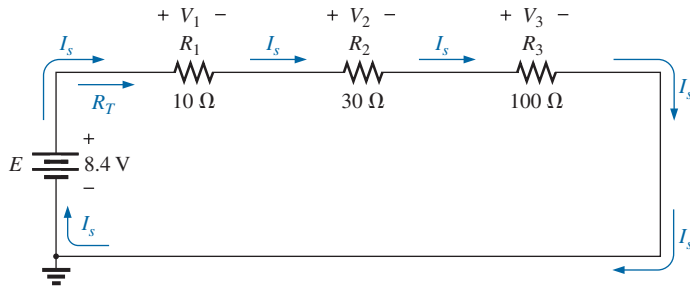
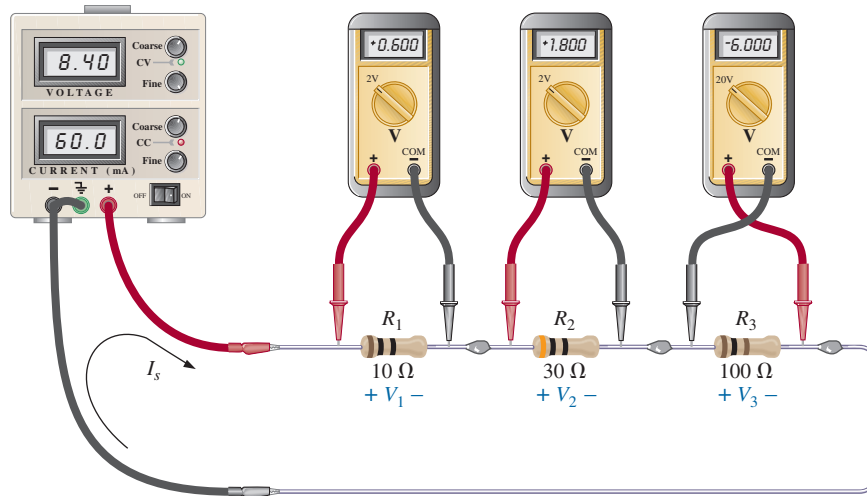

FIG. 5.12
FIG. 5.19
If we now take an 8.4 V dc supply and connect it in series with the series resistors in Fig. 5.4, we have the **series circuit** in Fig. 5.12.
**the direction of conventional current in a series dc circuit is such that it leaves the positive terminal of the supply and returns to the negative terminal, as shown in Fig. 5.12.**
For the circuit in Fig. 5.12, the above statement dictates that the current is the same through the three resistors and the voltage source. In addition, if you are ever concerned about whether two elements are in series, simply check whether the current is the same through each element.
For the configuration in Fig. 5.12, using the total resistance calculated in the last section, the resulting current is
Current entering a resistor creates a drop in voltage with the polarity indicated in Fig. 5.14(a). Reverse the direction of the current, and the polarity will reverse as shown in Fig. 5.14(b). Change the orientation of the resistor, and the same rules apply as shown in Fig. 5.14(c). Applying the above to the circuit in Fig. 5.12 will result in the polarities appearing in that figure.
which for Fig. 5.12 results in
Using voltmeters to measure the voltages across the resistors in Fig. 5.12.
In Fig. 5.19, all the voltages of the circuit in Fig. 5.12 are being measured by voltmeters that were connected without disturbing the original configuration. Note that all the voltmeters are placed **across** the resistive elements. In addition, note that the positive (normally red) lead of the voltmeter is connected to the point of higher potential (positive sign), with the negative (normally black) lead of the voltmeter connected to the point of lower potential (negative sign) for  $V_1$  and  $V_2$ . The result is a positive reading on the display. If the leads were reversed, the magnitude would remain the same, but a negative sign would appear as shown for  $V_3$ .
Measuring the current throughout the series circuit in Fig. 5.12.